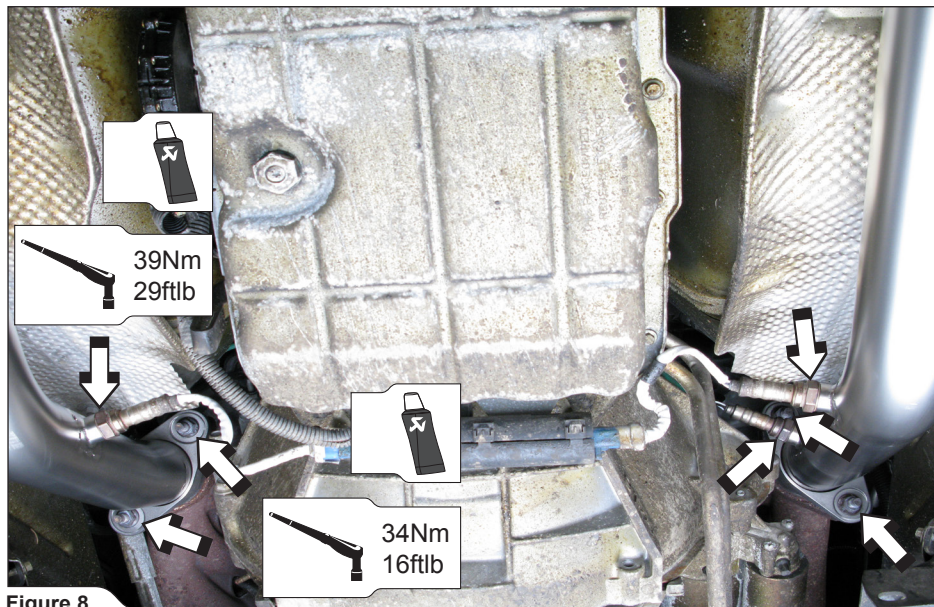

Figure 8
2. **For Evolution only:** tighten the four marked flange nuts and three lambda sensors to a specified torques (**Figure 8**).